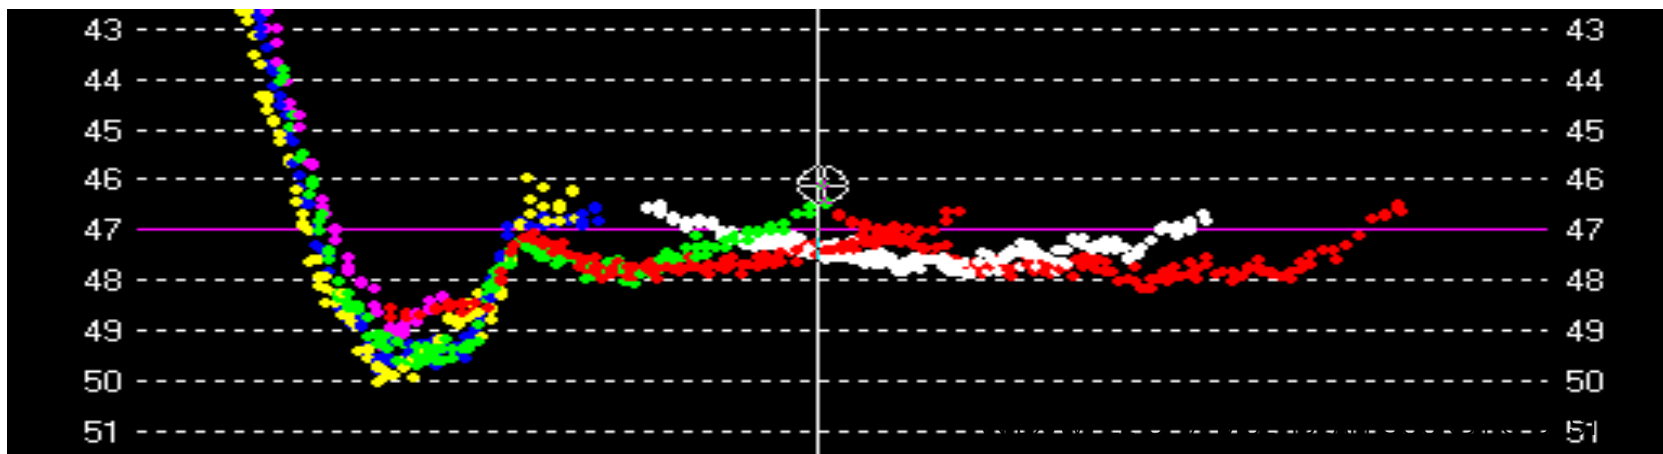

Figure 1. Multiple Sound Velocity Traces
- Figure 1 is an example of what can happen to the outer beams of a multibeam array when sound velocity is not properly tuned
- Figure 1 demonstrates that the conduct of several velocity probe casts per survey day becomes critically important to survey accuracy (impacted by water temp and salinity)